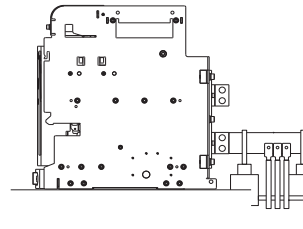

Fig. 2
- When connecting several cables they should be secured to each other and fastened on the frame of fixed construction (Fig. 2).